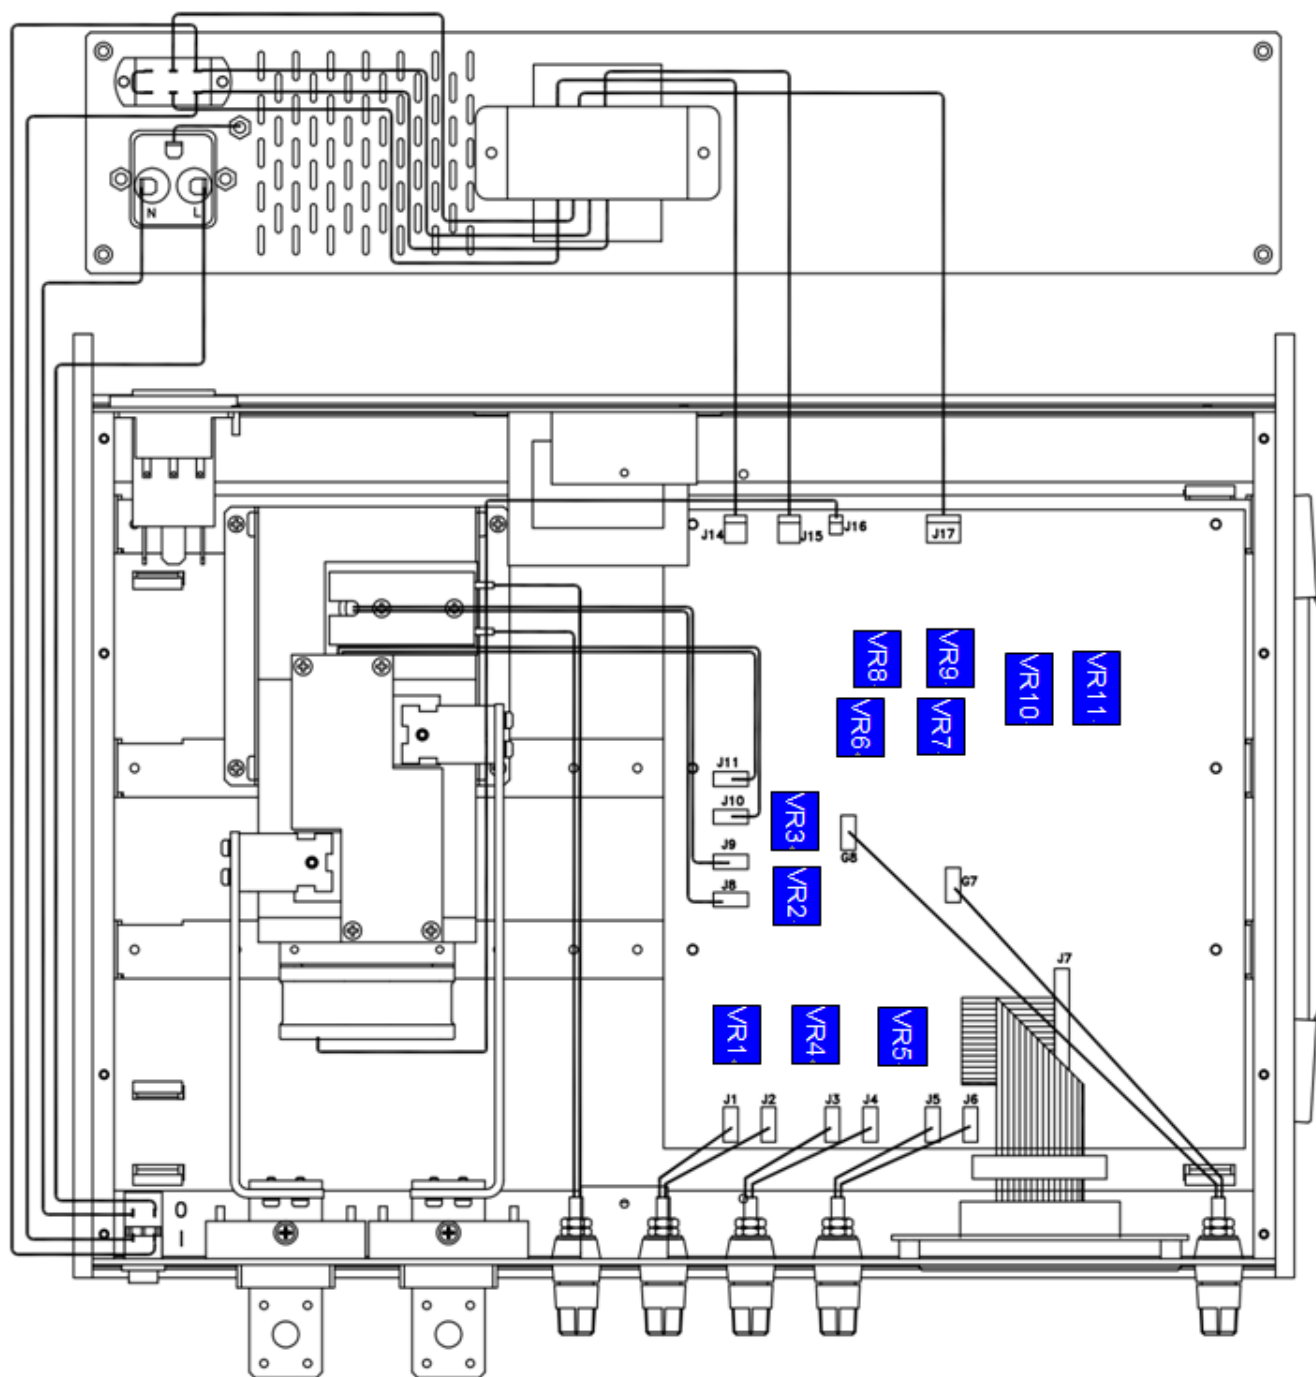

Fig 4-1 Potentiometer layout diagram
The 7550A should be calibrated, at intervals best determined by the user. It will be necessary to remove the top cover of instrument to gain access to the calibration adjustments. Top cover is removed by removing six screws. The adjust potentiometer and reference are shown on fig 4-1. There are two circuitry needs to be calibrated : shunt and DAM these calibrations may be performed independently.
- 4.3.1. Press the key switch to the 20mA position calibrator cables to the 20mA range terminals. Set the current calibrator output for 10mA and adjust VR5 (see fig 4-1) until the DVM reading is the same as the current calibrator output.
- 4.3.2. Press the key switch to the 200mA position, connect the current calibrator cables to the 200mA range terminals. Set the current calibrator output for 100mA and adjust VR4 (see fig 4-1) until the DVM reading is the same as the current calibrator output.
- 4.3.3. Press the key switch to the 2A position, connect the current calibrator cables to the 2A range terminals. Set the current calibrator output for 1A and adjust VR1 (see fig 4-1) until the DVM reading is the same as the current calibrator output.
Press the key switch to the 20A position, connect the current calibrator cables to the 20A range terminals. Set the current calibrator output for 10A and adjust VR2 (see fig 4-1) until the DVM reading is the same as the current calibrator output.
Press the key switch to the 250A position, connect the current calibrator cables to the 250A range terminals. Set the current calibrator output for 100A and adjust VR3 (see fig 4-1) until the DVM reading is the same as the current calibrator output.
Disconnect all of the CURRENT INPUT input terminals, adjust VR8 (see fig 4-1) until the 4 1/2 digit current meter on the front panel is display 0.000mA.
Connect the current calibration cables to the 20mA range terminals, set the current calibrator output for 40mA then the DVM reading is 400.00mV. Adjust VR11 (see fig 4-1) until the 4 1/2 digit current meter reading is 40.00mA of front panel.
Set the current calibrator output for 15.0mA then the DVM reading is 150.000mV. Adjust VR6 (see fig 4-1) until the 4 1/2 digit current meter reading is 15.000mA of front panel.
Disconnect all of the CURRENT INPUT terminals, adjust VR9 (see fig 4-1) until the 4 1/2 digit current meter on the front panel is display 0.000mA.
Connect the current calibrator cables to the 2A range terminals, set the current calibrator output for 1000mA then the DVM reading is 100.00mV. Adjust VR10 (see fig4-1) until the 4 1/2 digit current meter reading is 1000.0mA of front panel. Disconnect all equipment.